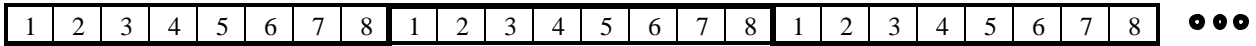

Figure 2-1 Encoder Serial Data Output Time Slot Sequencing
The multiplexer frames the encoder serial data output in a series of eight recurring time slots as shown in Figure 2-1. Each time slot may be configured to contain compressed video data and Synchronous Serial (SS), Asynchronous Serial (AS) or audio data when FEC is not enabled. If FEC is enabled, time slot 8 is reserved for FEC. When the multiplexer is disabled, (**OPTION1 08**) all available transmission bandwidth is allocated to video. When the multiplexer is enabled, framing overhead consumes $\approx 7.7\%$ of the transmission link bandwidth. The maximum SS rate is 50% of the transmission link bandwidth when audio, AS, and FEC are not enabled. When any combination of audio, AS or FEC is enabled, the maximum SS rate is 25% of the transmission link bandwidth. Refer to Table 2-1 for multiplexer bandwidth usage. Each group of eight time slots is 130 bits long regardless of link rate. Each time slot is 16 bits long with 2 framing bits at the start of time slot 1 ($130 \text{ bits} = (8 \times 16) + 2$). The allocation of time slots on the decoder must be identical to the allocation of time slots on the encoder. This allows the demultiplexer to synchronize time slots, and to identify the type of data contained in each time slot